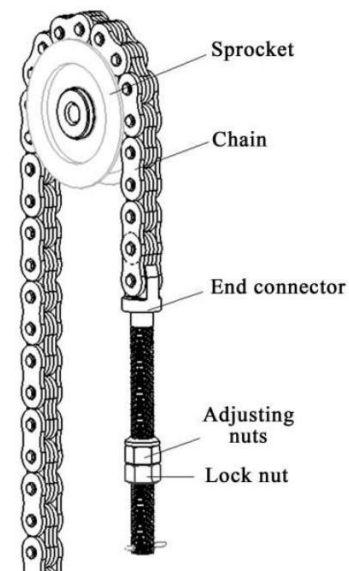

Fig. 6-12
(1) Put a pallet on the fork and park the car on flat ground.
(2) Make the forks and pallets fall to the ground.
(3) Remove the upper end joint of the chain and remove the chain from the sprocket, as shown in Fig. 6-12.
(4) Lift the inner mast.
(5) After confirming that the fork arm carrier has been disengaged from the inner door frame, remove the fork arm carrier.
(6) Replacement of main roller: